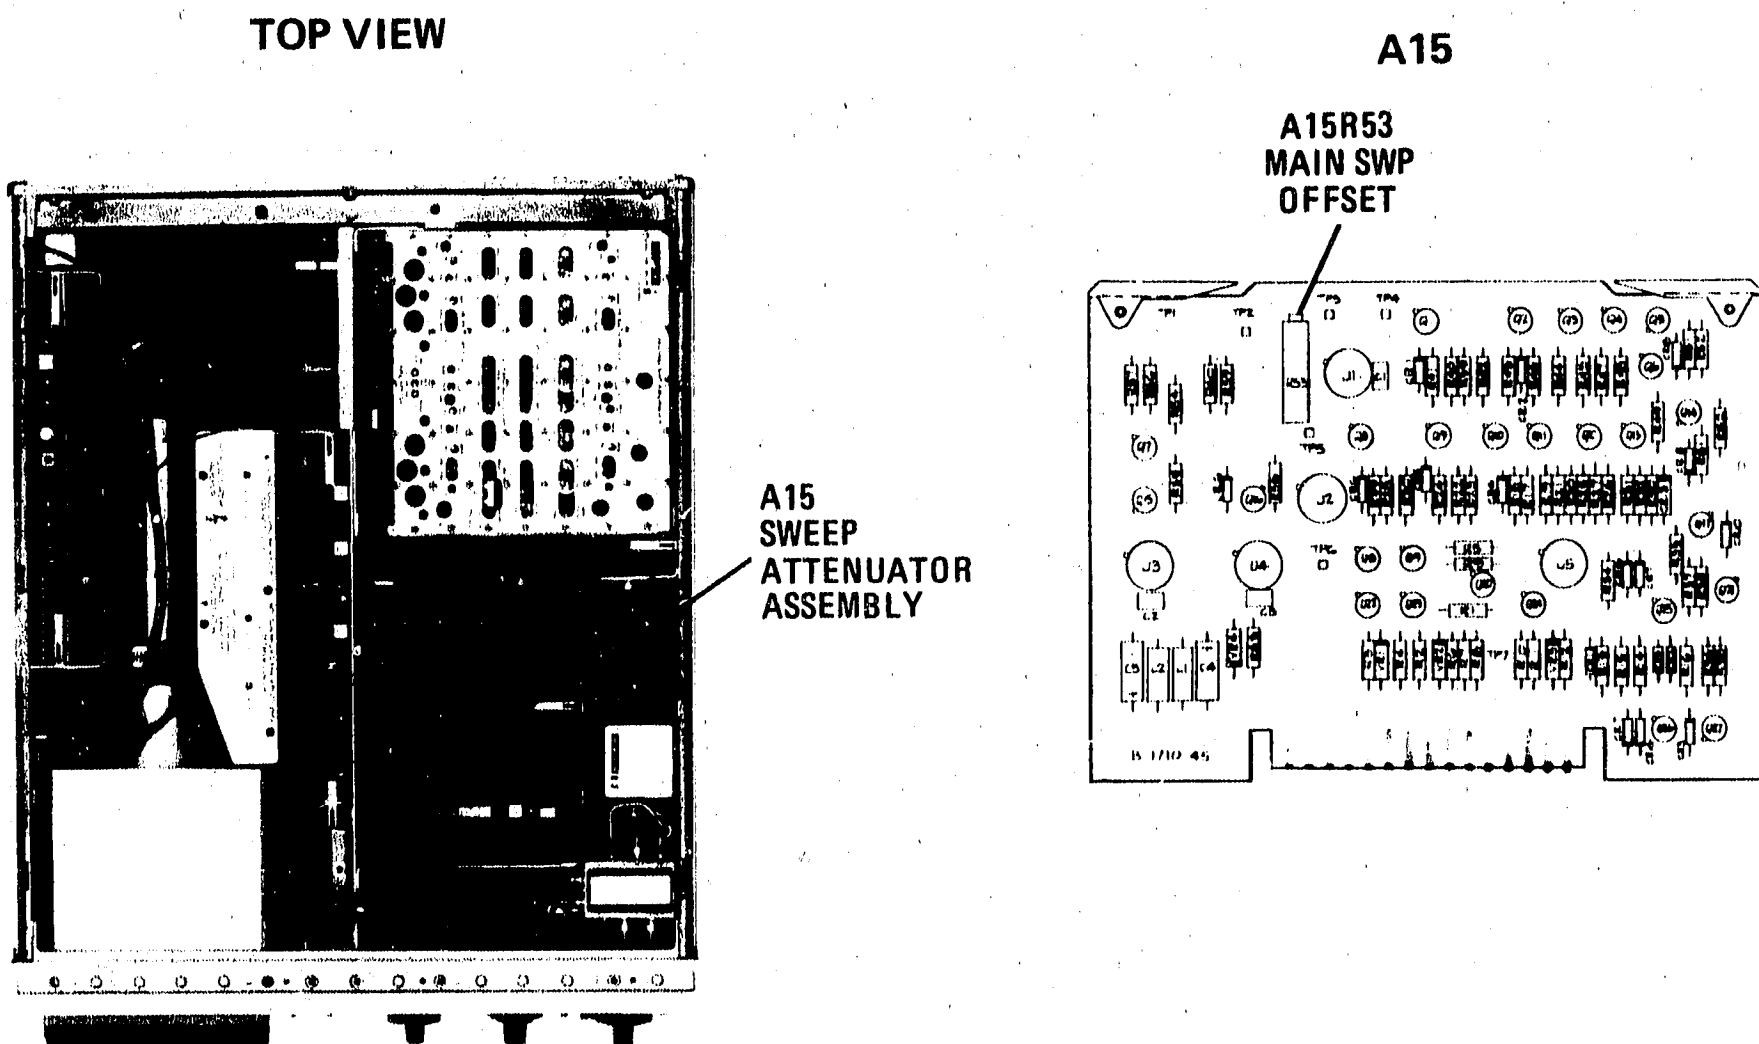

Figure 5-41. Sweep Attenuator Adjustment Test Setup
- 5. Switch FREQUENCY SPAN/DIV to 5 MHz and adjust A15R53 MAIN SWP OFFSET (Figure 5-41) to center 100 MHz signal on CRT display.